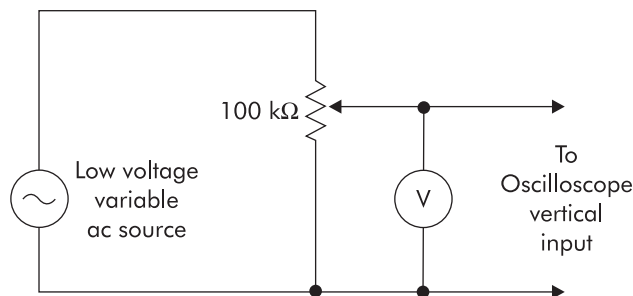

FIGURE 37-1
1. Connect the circuit as shown in Figure 37-1.